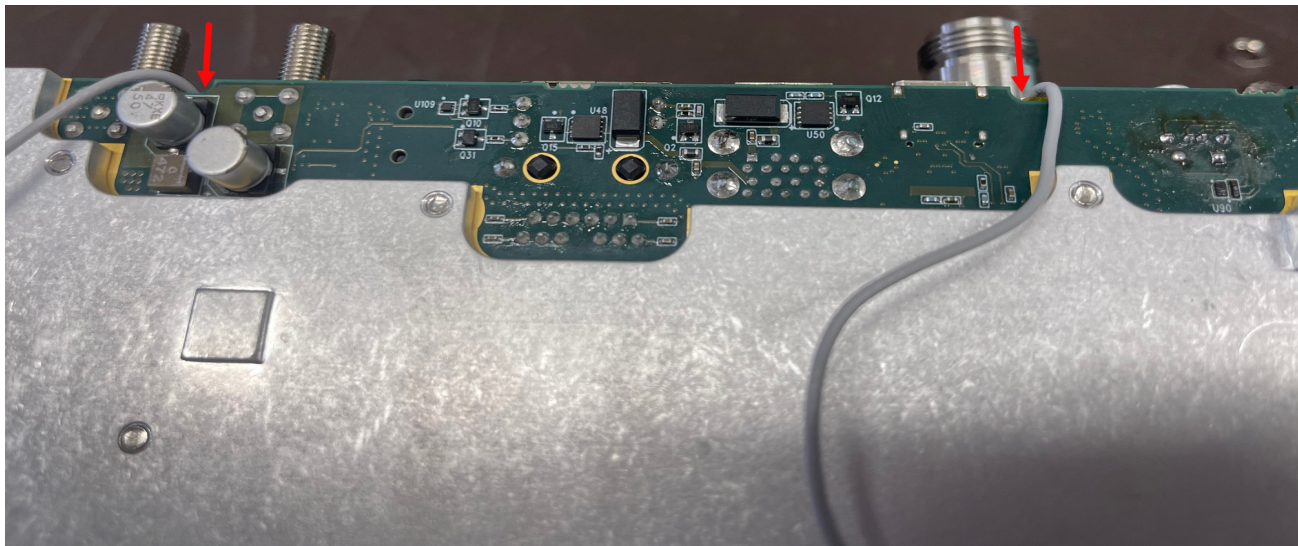

Figure 3-20. Reassembling the unit
1. Ensure to carefully align the cables of the Wi-Fi antenna into the little grooves of the Main PCB to prevent the Wi-Fi antenna cables from being smashed or crimped. See Figure 3-20.